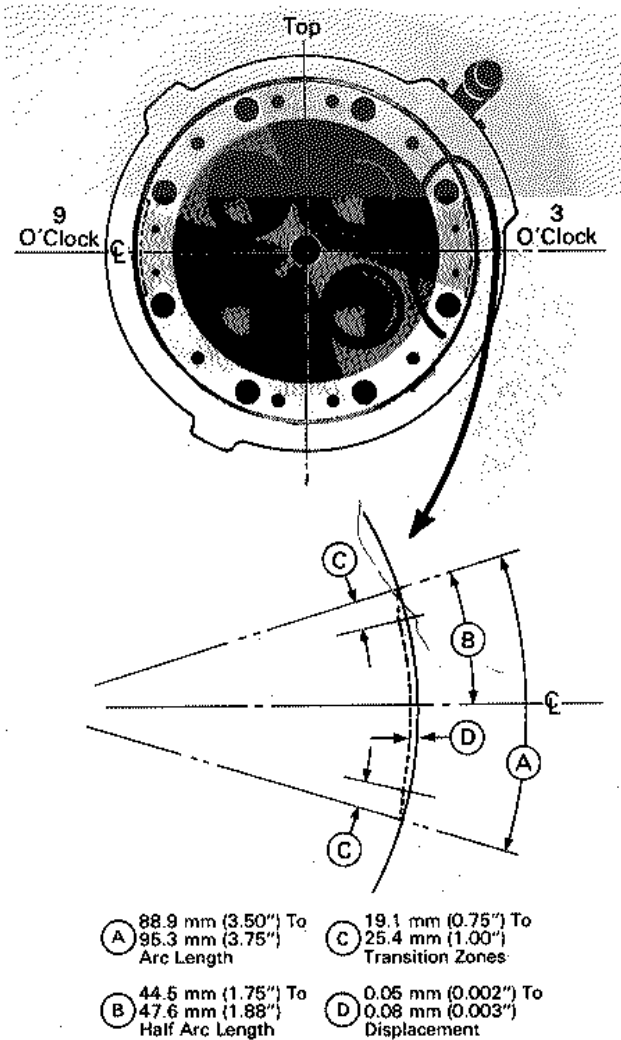

Fig.2-8-Fillet Rolling
7. When the fireface and flange underside are remachined, the fillets between the flange underside and the barrel section must be re-rolled to provide a necessary compressive preload. The fillets are rolled using a 0.085" radius roll at an angle of 280 to the heavy flanges. Sufficient force must be applied to the roll to displace the fillets to a depth of 0.05 mm (0.002") to 0.08 mm (0.003") in two equal length-arcs centered at the 3 o'clock and 9 o'clock positions, as shown in Fig. 2-8.